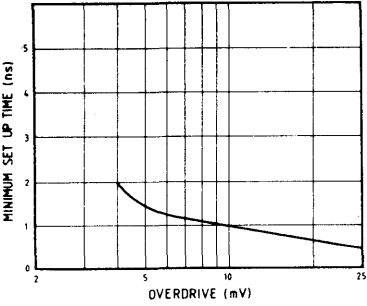

Fig. 7c T_S v. overdrive set-up time
2. This parameter is defined with $+100$ mV input and -10 mV overdrive, corrected to take account of the comparator offset, i.e. the switching threshold effectively is at OV on the input waveform. The relationship between setup time and overdrive is shown in Fig. 7c. The test circuit diagram, Fig. 4 indicates a method of performing this test.